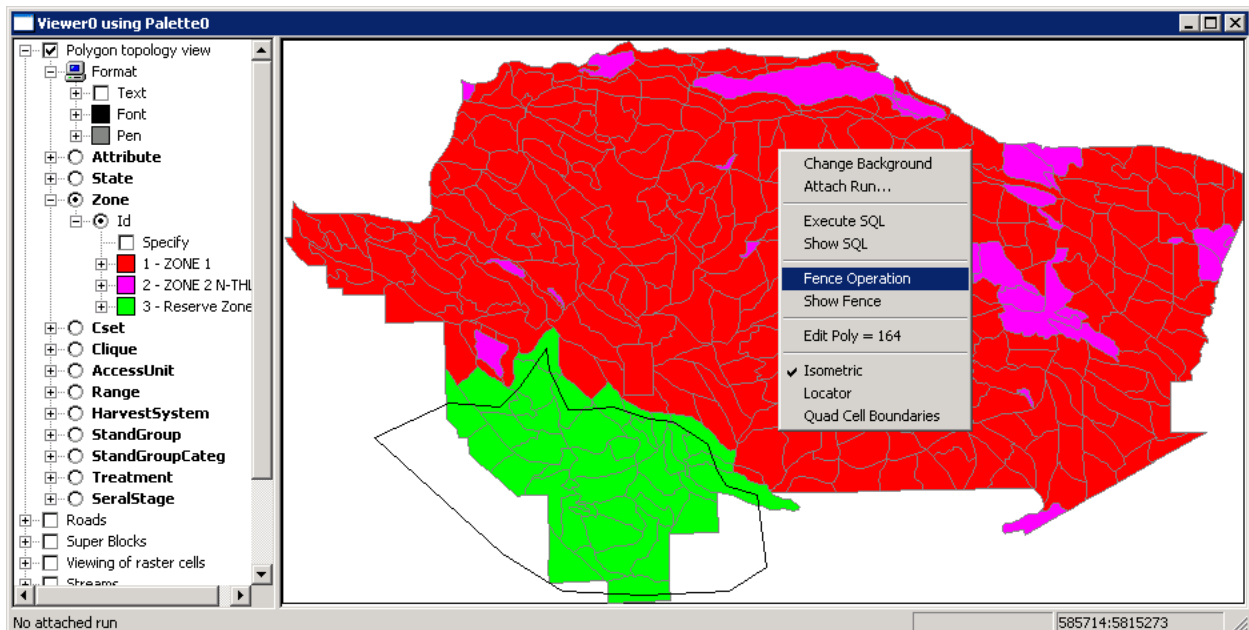

Figure 27: Fencing operation
3.3.4 Select the polygons located in the south-west portion of the map by drawing a fence around them (Figure 27) vertexes can be created through clicking. When you want to close the fence right-click.